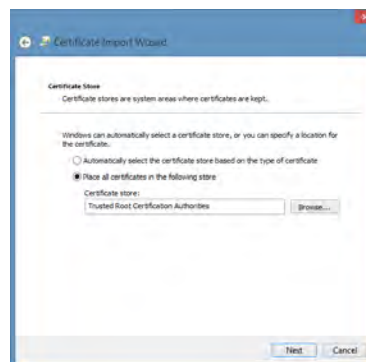

Figure 81: Certificate import wizard - trusted root certification
8. Select the radio option for **Place all certificates in the following store**, then click **Browse** (see Figure 81).